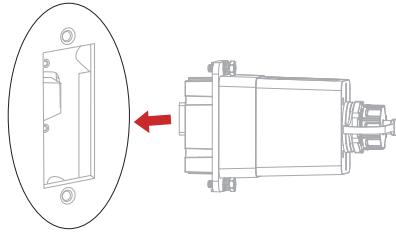

Figure 10b: Insert the Wi-Fi/Ethernet dongle
- B. Insert Wi-Fi/Ethernet dongle into the port firmly. (Figure 10b)